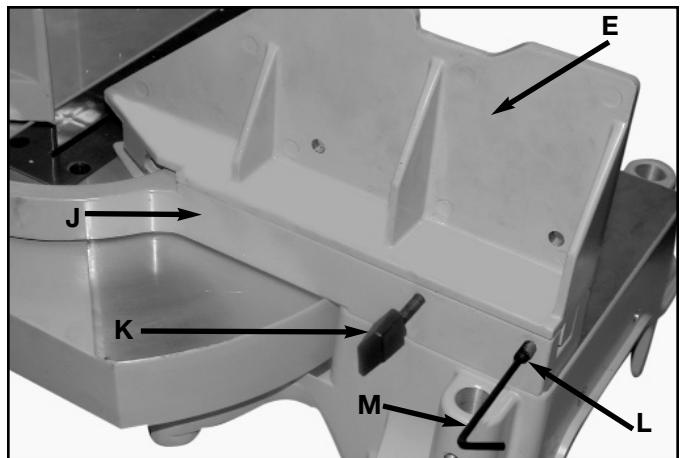

Fig. 7D
2. Slide fence (E) on fence slide support (J) Fig. 7D. Tighten set screw (L) with hex wrench (M) until it contacts the fence slide support, then loosen one turn. The purpose of this set screw is to prevent the sliding fence from coming completely off the slide support.
3. Slide fence to the desired position and tighten thumb screw (K).